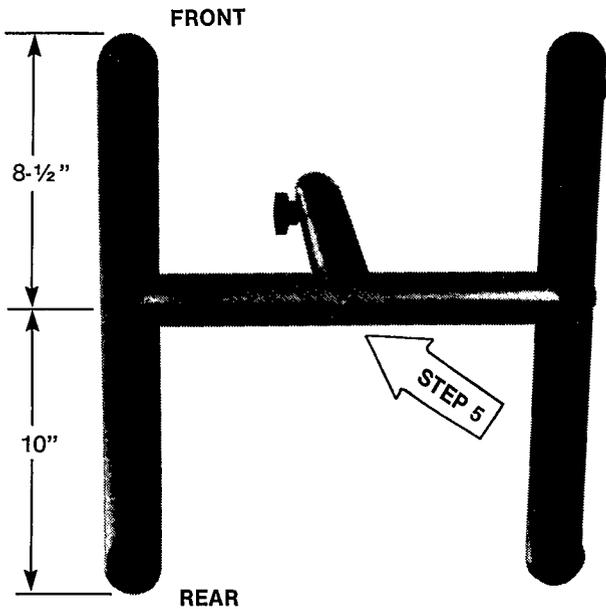

FIGURE 8
5. Use the same capscrew to attach the post assembly to the frame base, as shown in Figure 8.
7. Note the front and rear of the frame base, as shown in Figure 8. Stand the frame upright and install the unit on the post. Tighten the thumb-screws (Figure 10).